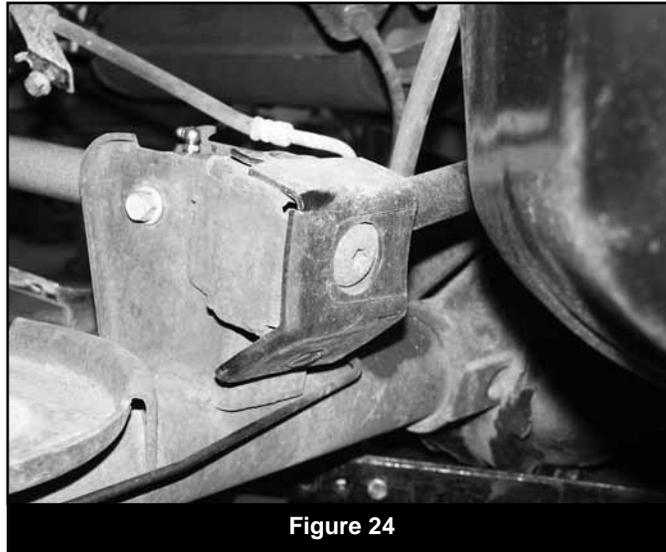

Figure 24
22. Remove the plastic cover from the track bar mount on the axle (Fig. 24). Discard cover.